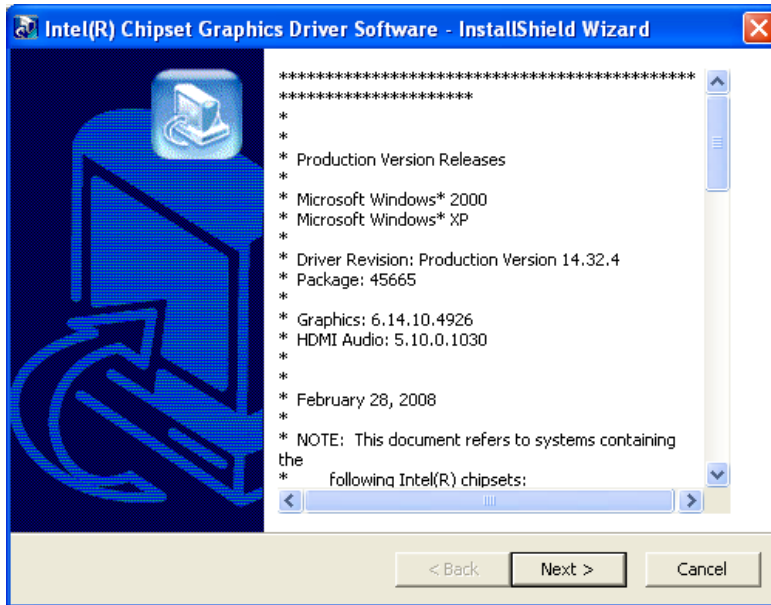

Figure 6-7: Graphics Driver Read Me File
Step 4: The **Read Me** file in **Figure 6-7** appears.